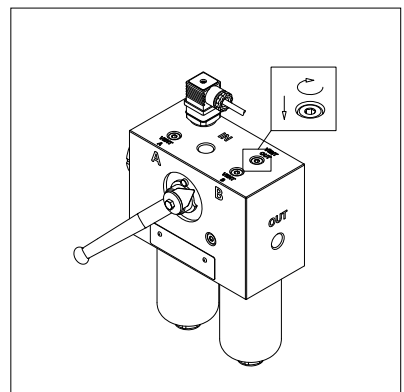

fig. 23
- (Fig. 23) Bleed the air from the system through the “Vent OUT”, until the operating fluid starts oozing.